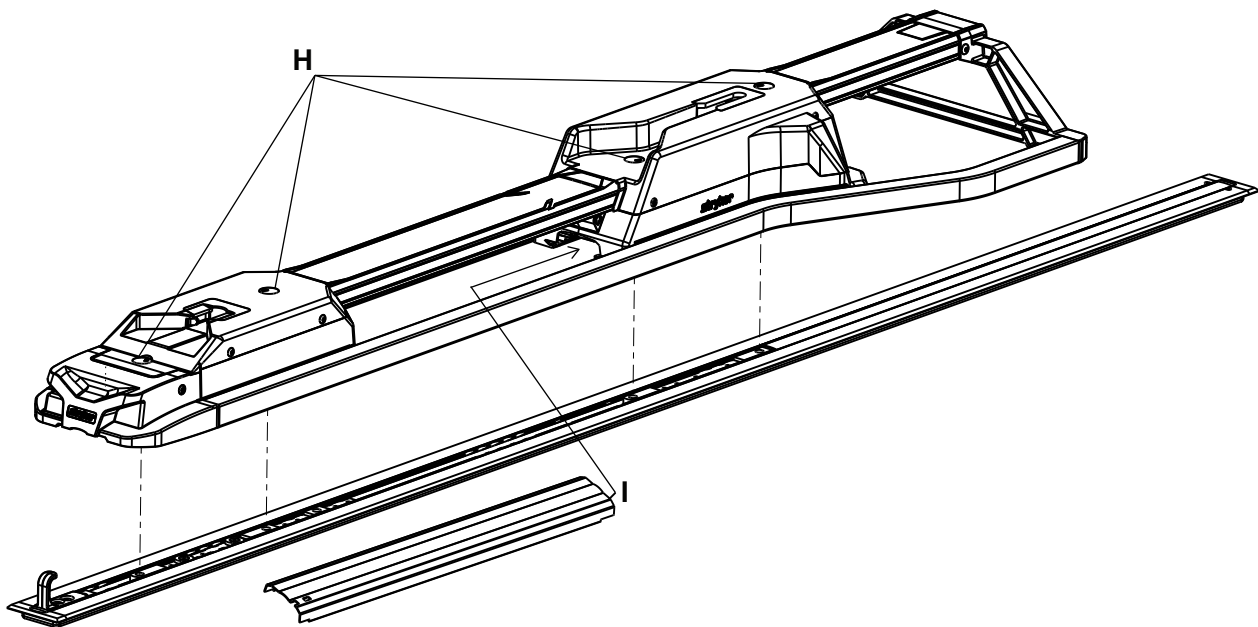

Figure 11 – Attach the fastener
17. Rotate the spin caps (H) a half turn to access the attached floor plate bolts that are under the caps (Figure 11).
19. Using a 3/8" hex wrench, install the other three attached floor plate bolts (H) into the two cleats (Figure 11).
23. Insert the unnotched side of the center cover assembly (6392-001-011) (I) into the opening in the head end housing (Figure 11).
- _____ Using a torque wrench, double check that all four attached floor plate bolts (A) are tightened 60+/-10 ft-lb. (Figure 11).